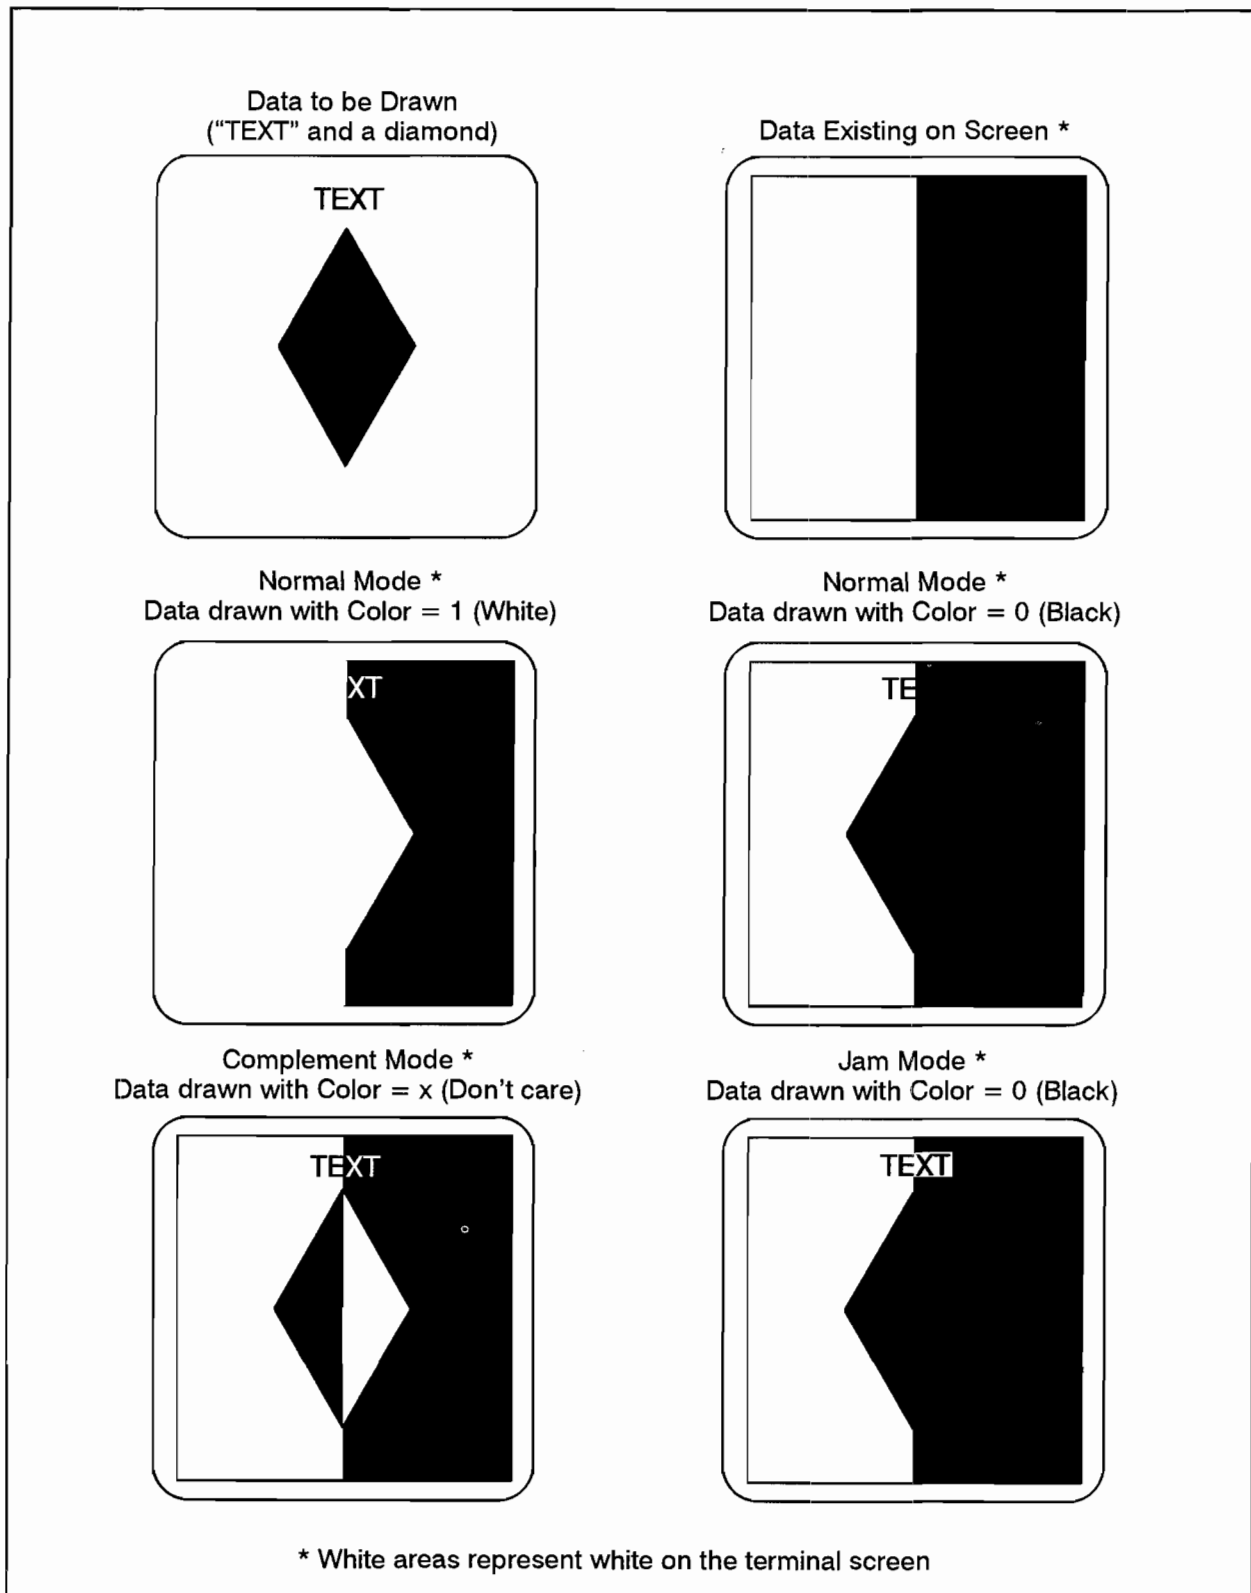

Figure 5. Special Drawing Modes
- 1056 Set special drawing modes. Using this escape function overrides the color as defined by the JCOLR call. After generating output primitives in a special drawing mode, the application program can terminate the special drawing mode by making any call to JCOLR. See Figure 5 for the color and the special drawing modes.